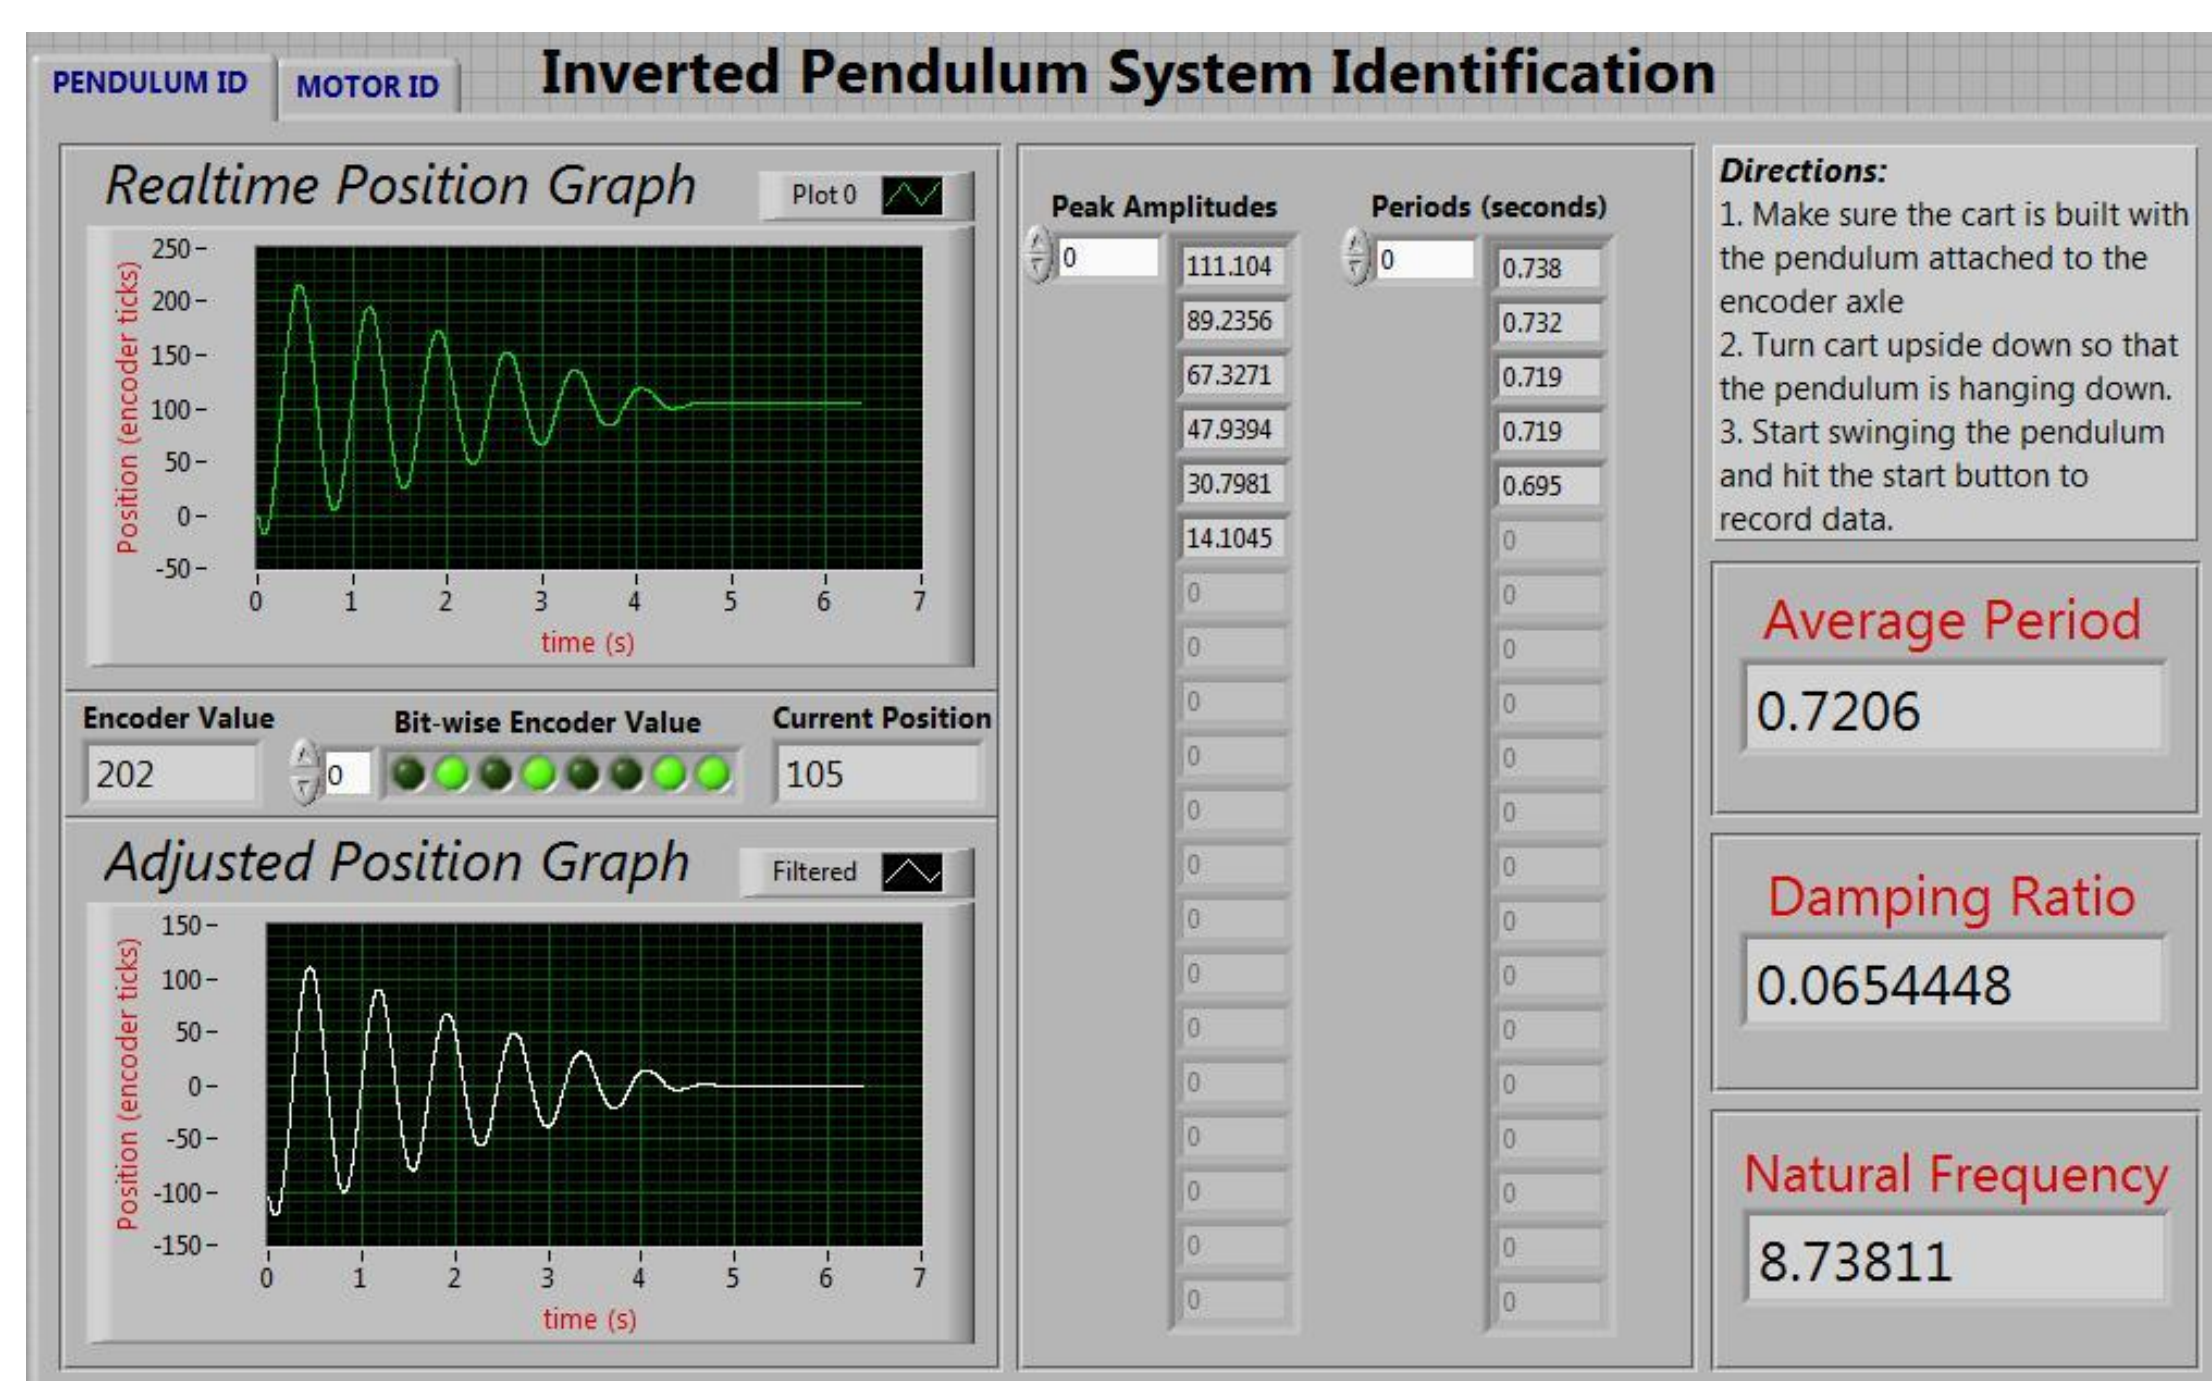

Figure 3: The interface used in performing pendulum system identification
- Real-time graphical data of the pendulum’s position clearly indicates the pendulum’s movement, which serves to reassure the student that the experiment is being conducted accurately; as shown in Figure 3.